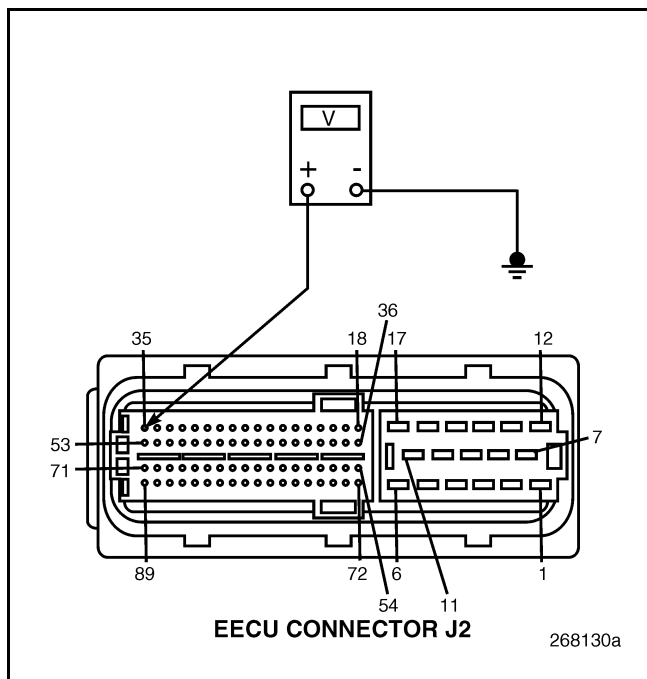

Figure 839
4. Measure the voltage between EECU connector J2 pin 35 and a good ground (see Figure 839).